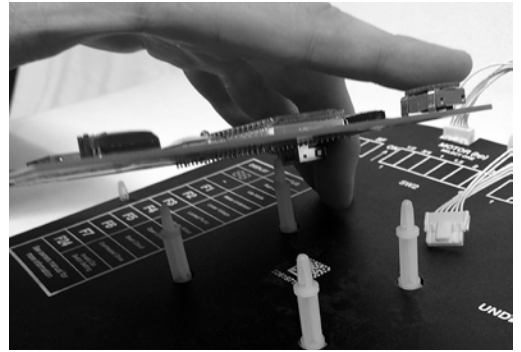

Figure 4A
5. Install the replacement display board by lining up the holes with the four plastic retaining posts and press down until it is fully seated (Figures 4A, 4B, and 4C).